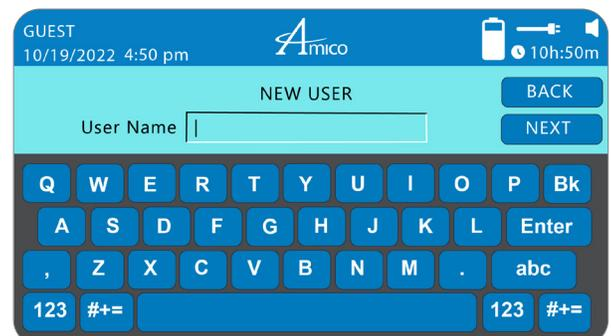

Figure 3
1. To input sit and stand positions, select **“SETTINGS”** and then **“USER SETUP”** (Figure 3).